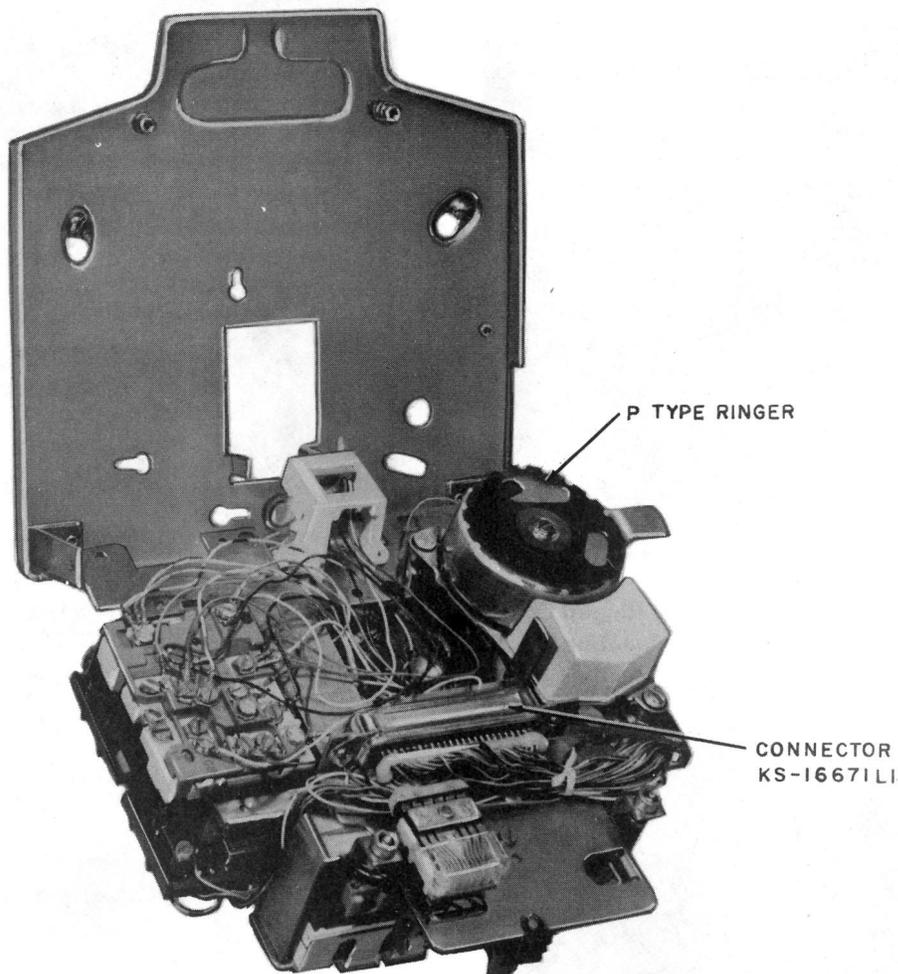
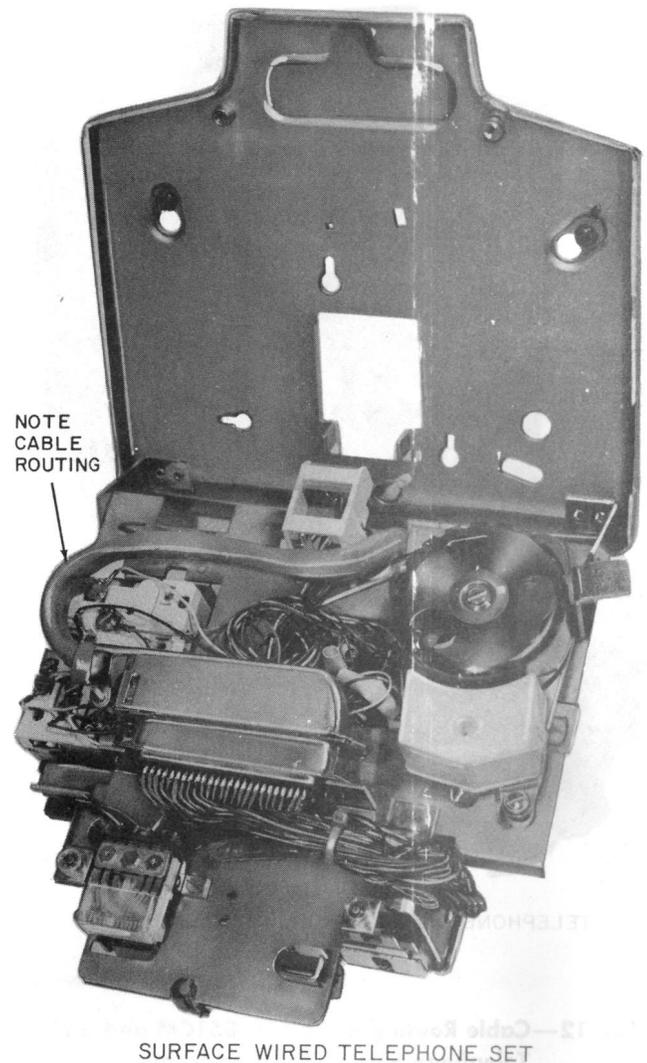

Fig. 6—851CM or 2851CM Telephone Set Showing KS-16671L1 Mounting Cord Connector
Fig. 11—Cable Routing on Current 851CM and 2851CM Telephone Sets at Exposed Wire Location
3.09 The 851CM and 2851CM telephone sets are equipped with a KS-16671L1 connector (Fig. 6). An A25B connector cable is required to connect set to key equipment (Fig. 11 and 12).
4.03 For sets equipped with the KS-16671L1 connector (Fig. 6), an A25B connector cable is required.